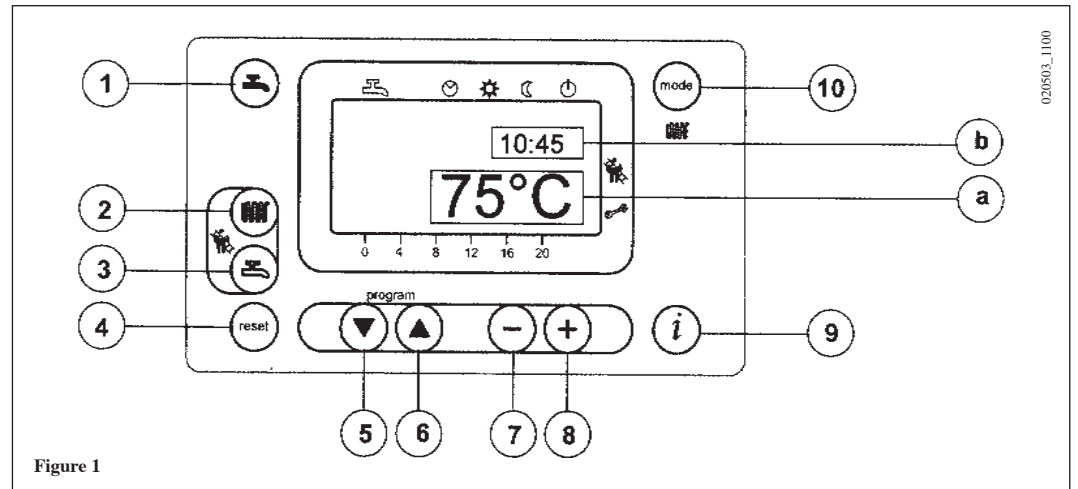
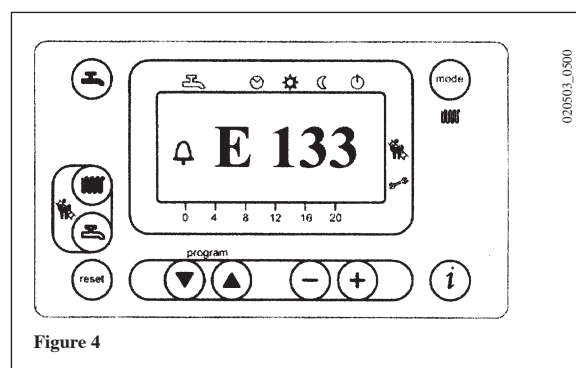

Figure 1
Figure 4
- Press the  key (2-figure 1) to set the central heating water temperature;
- press either of the   keys (1 or 10 - figure 1) to save and return to the main menu.
N.b – With the outdoor sensor probe connected, the  key (2 - figure 1) can be used to shift the central heating curve. Press the   keys to decrease or increase the room temperature in the premises to be heated.
- Press the  key (3-figure 1) to set the maximum domestic hot water temperature;
The fault warnings appear on the main display (figure 1 a) together with the  symbol (Figure 4).